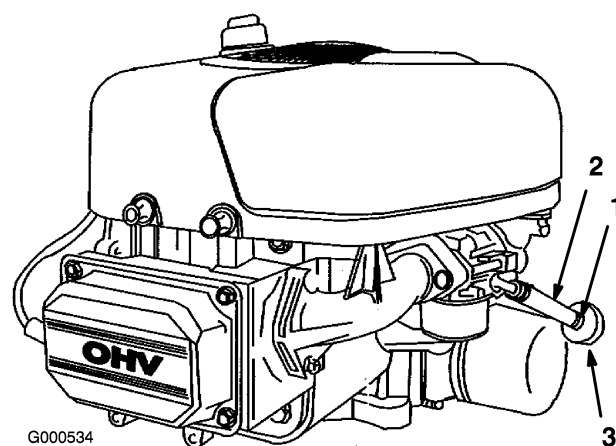

Figure 28
4. Loosen the hose clamp at the fuel filter and slide it up the fuel line away from the fuel filter (Figure 28).
5. Pull the fuel line off of the fuel filter (Figure 28).
7. Install the fuel line onto the fuel filter. Slide the hose clamp close to the fuel filter to secure the fuel line (Figure 28).